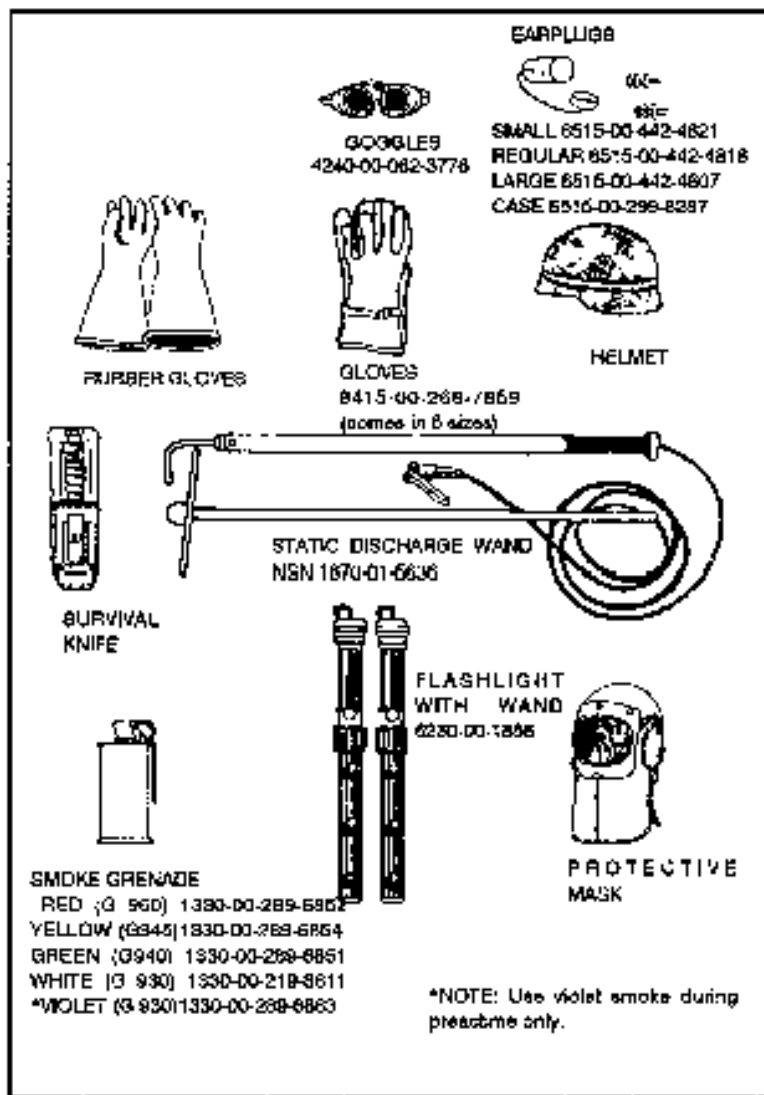

Figure 5-13. Protective equipment.
a. **Ground Crew Protective Measures and Equipment.** Ground crews working around hovering helicopters are exposed to a variety of hazards. The danger to the crews cannot be overemphasized, and measures to ensure their safety should be of the utmost importance. To protect the crews, the following equipment (Figure 5-13) is recommended or required.